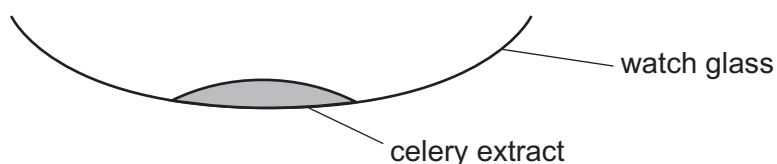

Fig. 1.1
- Step 7 Pour a small amount of the celery extract from test-tube **A** onto the watch glass, as shown in Fig. 1.1.